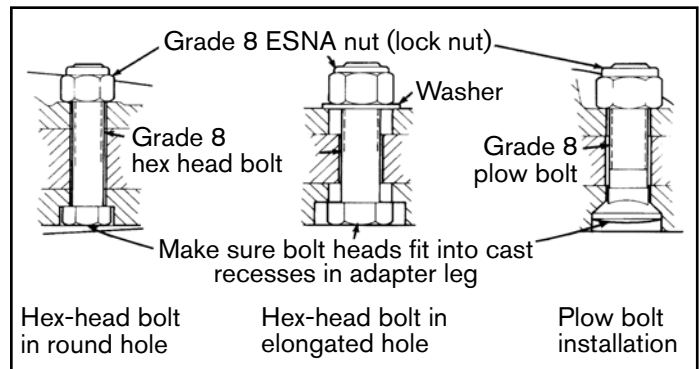

Figure 2
- Bolts should be installed so their heads fit into recesses cast in the adapter legs, see Figure 2.